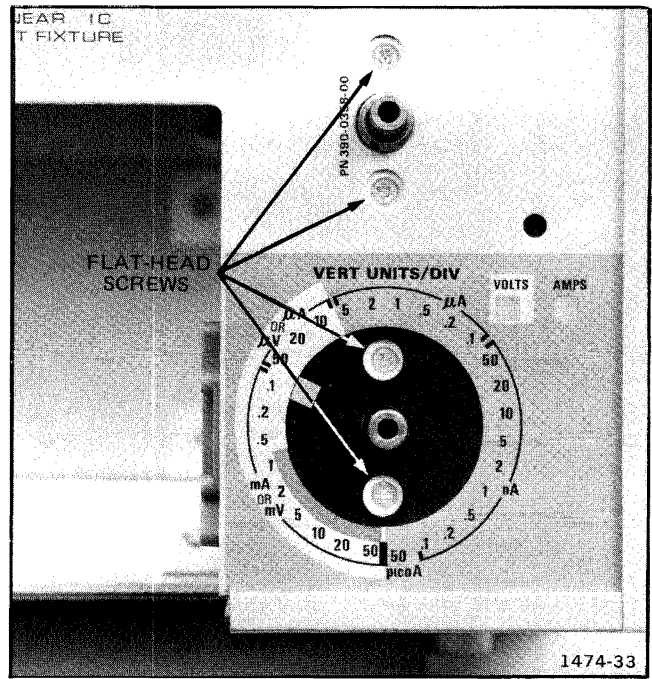

Fig. 4-7. Location of the flat-head machine screws under FUNCTION and VERT UNITS/DIV switches.
f. Remove the four flat-head screws (visible through the front-panel openings, see Fig. 4-7) at the VERT UNITS/DIV and FUNCTION switches.